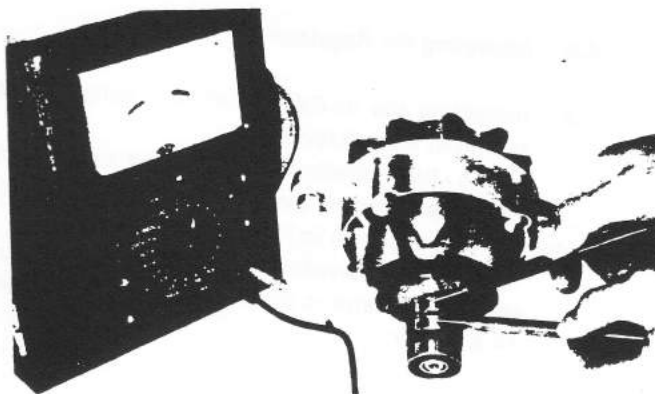

Fig. 8 Inspecting the Rotor
- a. To inspect the broken circuit in the rotor, connect the tester's leads to the slip ring as shown in Fig. 8, and if the tester shows the resistance of 5 ~ 6 ohms, there is no broken circuit: